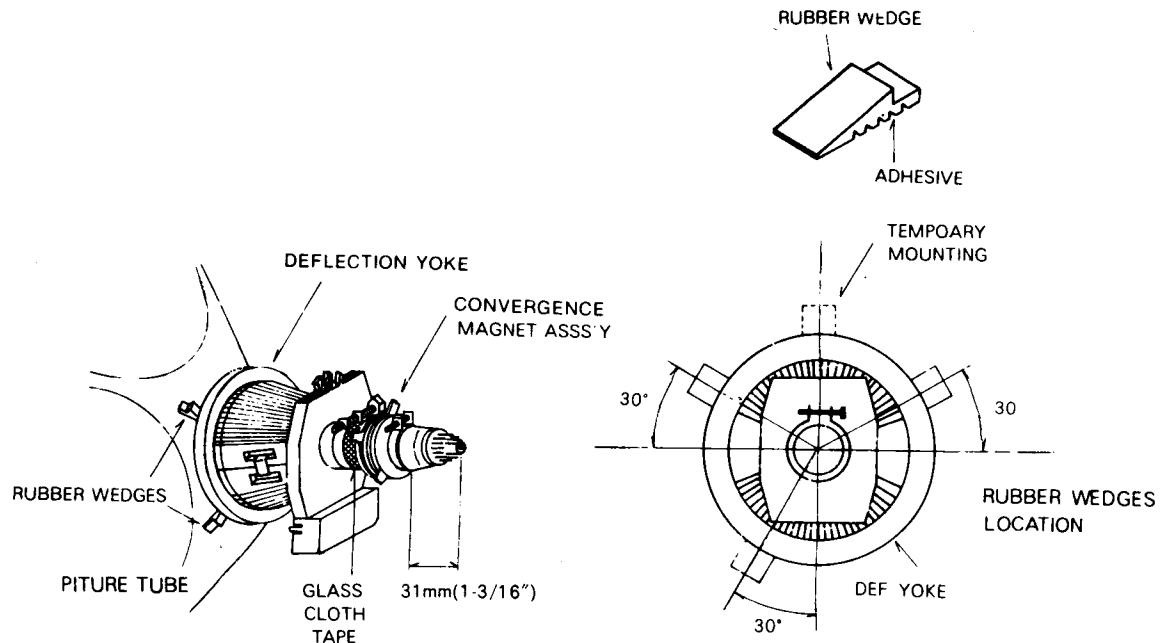

Fig. 3
Convergence magnet assembly and rubber wedges need mechanical positioning following the figure 3.
- 2) Place a wedge as shown in figure 3 temporarily. (Do not remove cover paper on adhesive part of the wedge.)
- 9) Stick3 adhesive tapes on wedges as shown in figure 3.